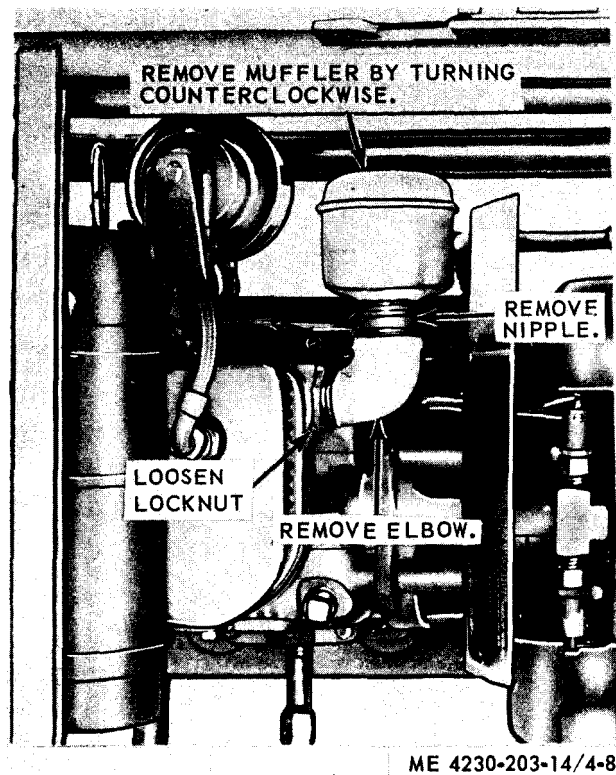

Figure 4-8. Exhaust muffler.
a. *Removal.* Refer to figure 4-8 and remove the
(1) Clean all parts with solvent and dry thoroughly.
(2) Inspect for cracks, breaks, dents, leaks, and other damage.
(3) Replace a damaged or defective exhaust muffler.
c. *Installation.* Refer to figure 4-8 and install the exhaust muffler.